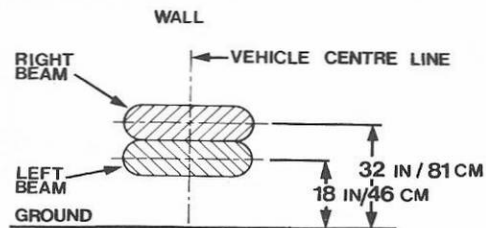

Fig. 54 Headlight Aiming
3. Aim the head lights one above the other as in figure 54.